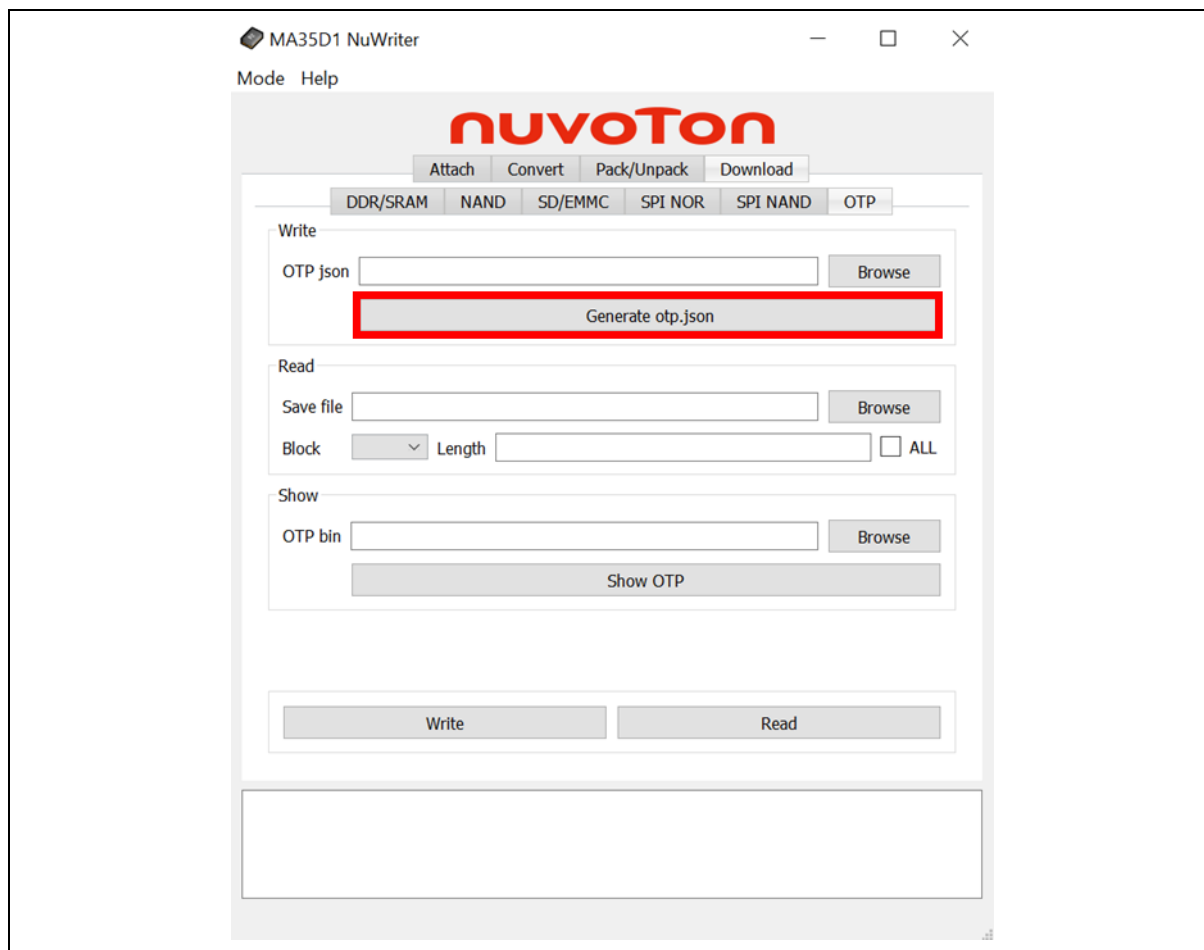

Figure 7-13 Generate otp.json
1. Click "Generate otp.json". Figure 7-13